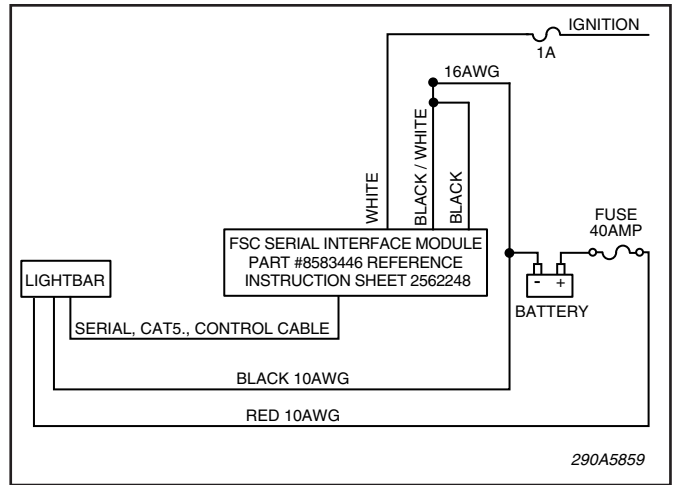

Figure 1. Block Wiring Diagram.
A. See figure 1. From the lightbar, route the CAT5 control cable into the vehicle's cab or trunk near the eventual location of the compatible Federal Signal Serial control head or FSC #8583446 Interface Module. An input cable is also provided with the FSC #8583446 Serial Interface Module.